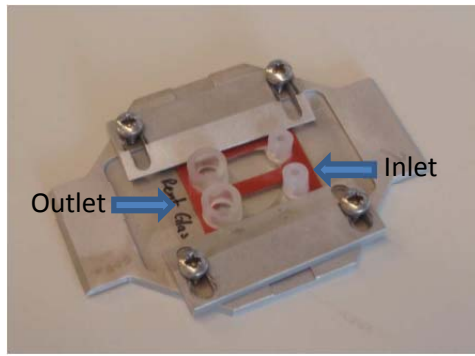

Figure 3
4. Assemble the chamber by adding the "Suber Lube" on the rubber of the chamber to avoid leakage and stick the PVC slide. Place the chamber in the metal microscope holder (Fig. 3).
7. Attach the inlet and outlet tubes in the chamber (Fig. 3) and start to run the flow. Start the timer and take the first set of pictures. Pictures are taken at 3 locations same field every time with the use of the program for the microscope stage. Don't forget to save the pictures.